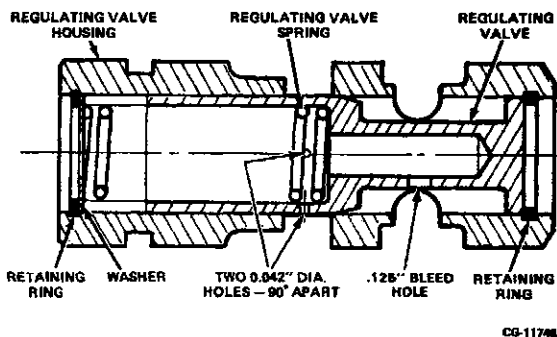

Figure 9.35. Revised Oil Pressure Regulating Valve Assembly
THE REVISED OIL PRESSURE REGULATING VALVE ASSEMBLY IS SHOWN IN FIGURE 9.35. AN O-RING AND REGULATING VALVE CAP GASKET ARE FURNISHED WITH THE ASSEMBLY IN A SERVICE PACKAGE. THE OIL PRESSURE REGULATING VALVE ASSEMBLY IS NOT SERVICED SEPARATELY. REFER TO THE LATEST PARTS CATALOG WHEN ORDERING SERVICE PARTS.
NOTE: Late model production engines and all service use the revised design OPRV assembly (Figure 9.35.). When confronted with an OPRV or bearing failure, replace the OPRV with the revised design OPRV assembly.
1. Move the regulating valve, by hand, to ensure it moves freely in the housing. Refer to Figure 9.35 and 9.36.